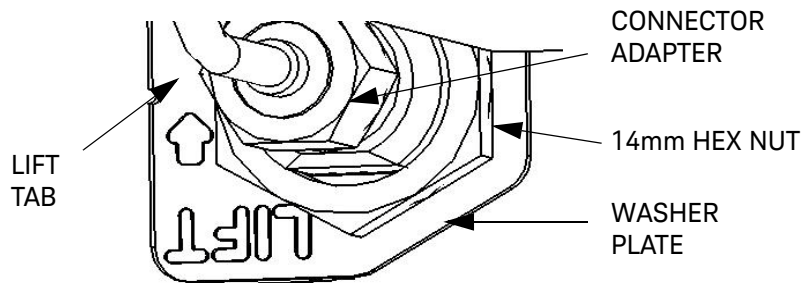

Figure 4-11 Connector-adapter installation
- 11 On the back side of the connector-adapter, place the washer plate and the 14mm hex nut over the SMA connector and secure. See Figure 4-11.